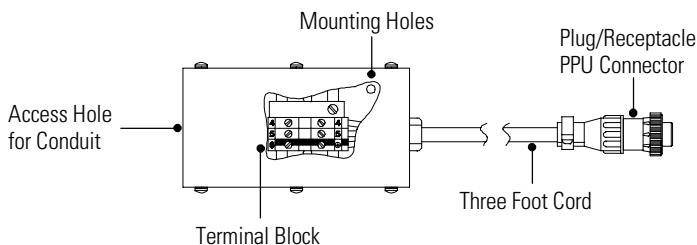

Figure 6. Optional REPO Cord Junction Box
1. Place the conduit through the access hole on the junction box (see Figure 6). Connect the exposed conduit wires to the corresponding compression terminals (see the following table). Tighten the compression terminals with a screwdriver.